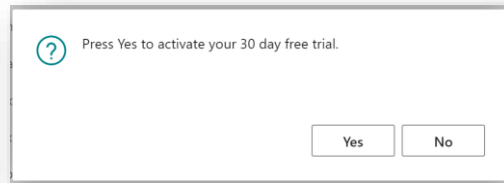

Figure 3-13
2. You are then prompted to choose **Yes** to activate your free trial. Choose **Yes** (Figure 3-13).